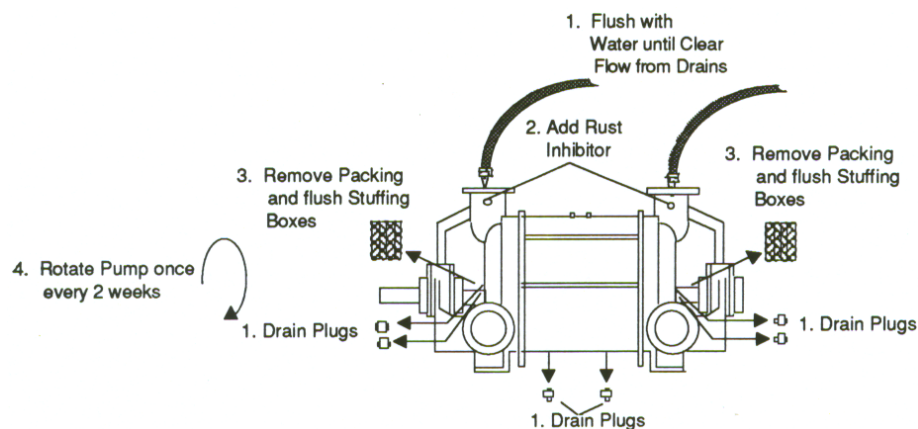

Figure 13. Draining and flushing
B.9. If the bearings are not damaged and are to be installed immediately, see Section 23 to re-lubricate the bearings using a hand operated gun. After they have cooled, pump grease completely covering both sides of the bearings while slowly turning the shaft by hand (See Figure 13: Filling Bearing Cavity with Grease).